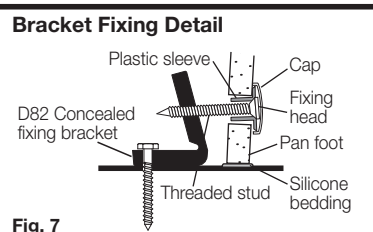

Fig. 7
- 7- Connect pan to connector and locate plastic fixing sleeve into holes in the pan. Fit screw into the bracket and tighten to bed pan to floor while ensuring level, as detailed in Fig. 7. **IMPORTANT-DO NOT OVERTIGHTEN, AS THIS MAY CRACK THE PAN FOOT.** Snap on plastic cap, as detailed in Fig. 7.